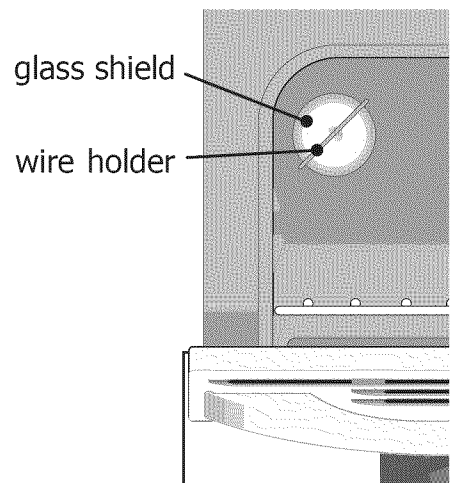

Fig.1
2. Open oven door for access to interior oven light. Once located, press wire holder to one side to release the glass shield (See Fig.1).